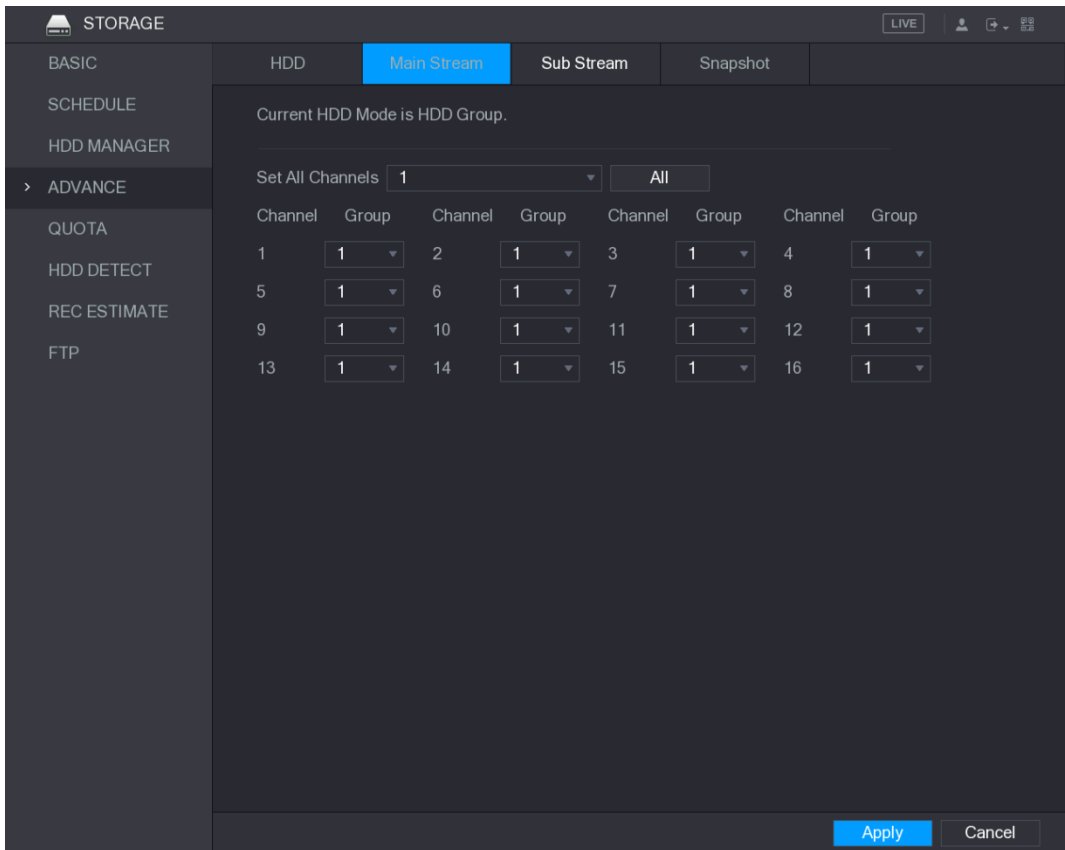
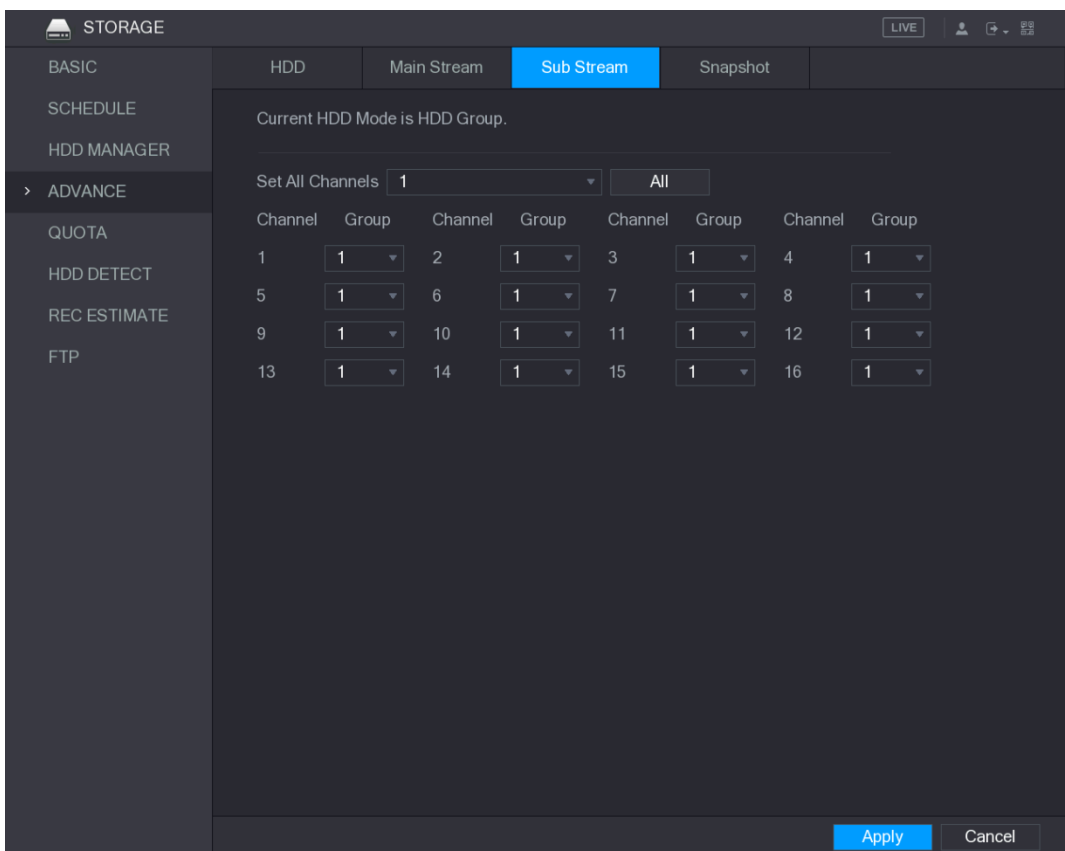
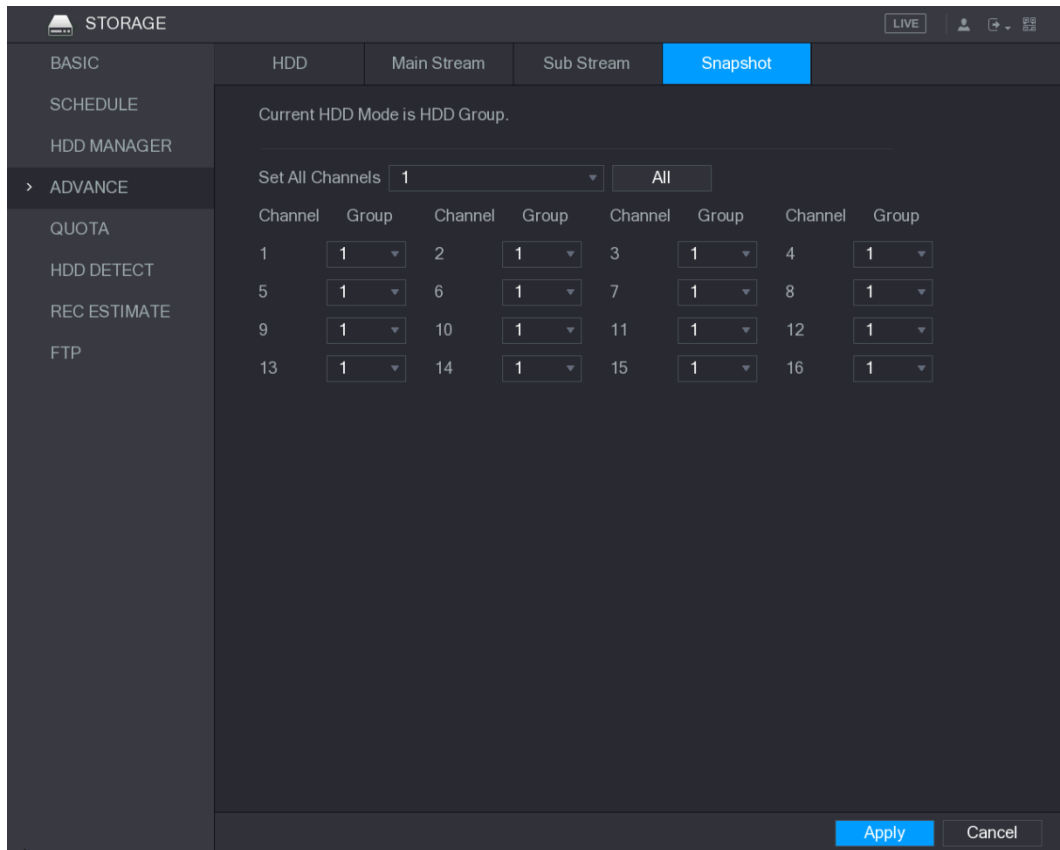

Figure 5-206
Figure 5-207
Figure 5-208
Step 3 After configuring HDD group, under the **Main Stream** tab, **Sub Stream** tab and **Snapshot** tab, configure settings to save the main stream, sub stream and snapshot to different HDD group as selected by you. See Figure 5-206, Figure 5-207, and Figure 5-208.